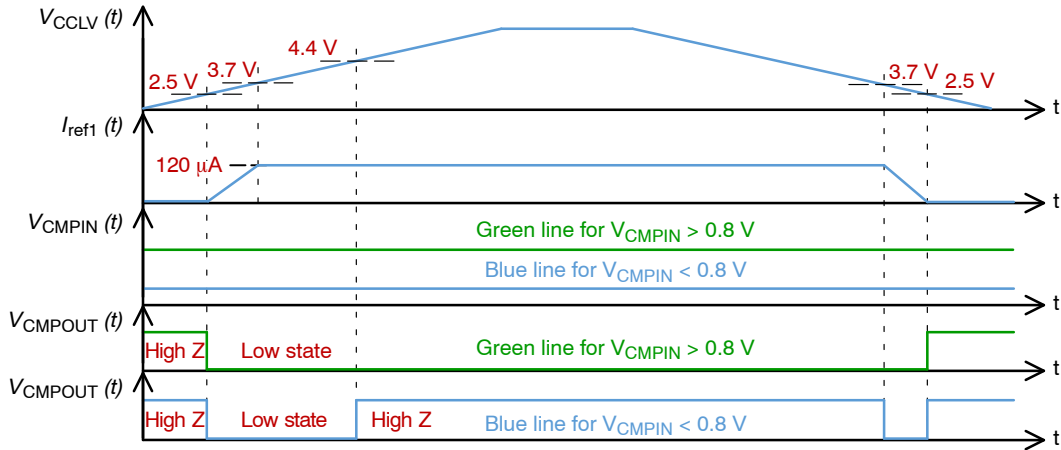

Figure 53. Operational Condition of the Comparator Based on Supply Voltage
The internal current source  $I_{\text{ref1}}$  has its nominal value when supply voltage  $V_{\text{CCLV}}$  is above 3.7 V. Figure 53 shows the behavior of the comparator based on supply voltage  $V_{\text{CCLV}}$ .